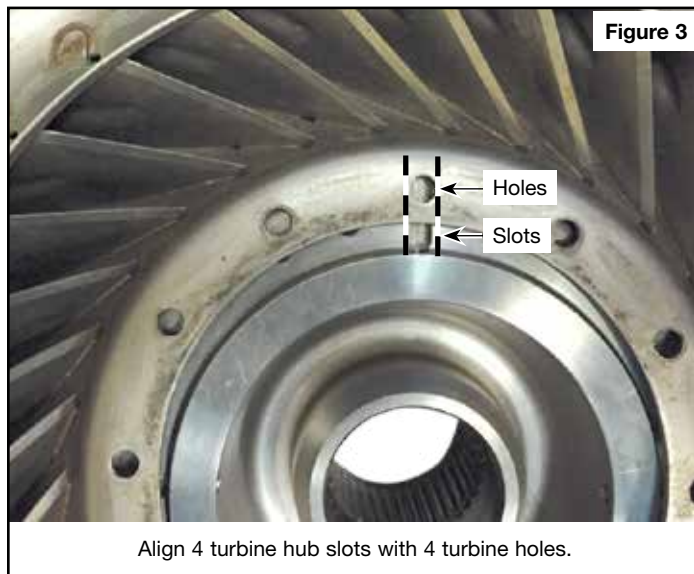

Figure 3
- Align four of the turbine holes with four of the turbine hub oil slots (**Figure 3**).